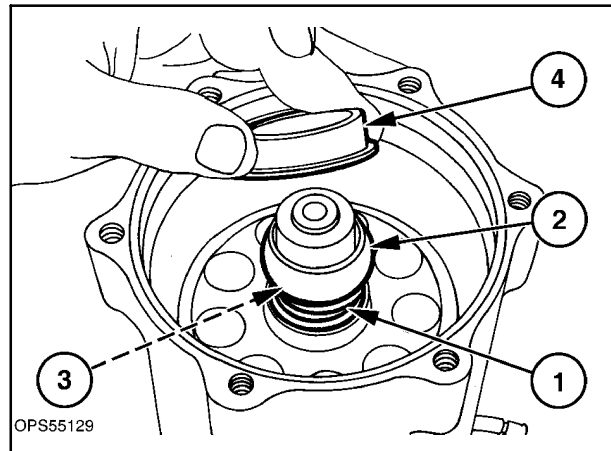

Figure 5-132
6. Install the back plate assembly and pull down evenly with two hands until the pivot, 2, Figure 5-132, is felt to move over the shoulder of the shaft. This will enable the back plate to move within approximately 3 mm (1/8") of the housing assembly at 1. If there is more than 1/8" clearance, remove the back plate and check the assembly.